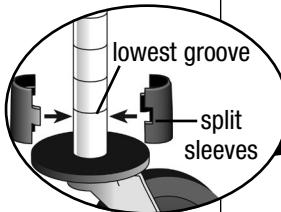

Figure 2a
- A. Snap the plastic tapered split sleeves onto the lowest groove on each post (see *Figure 2a*). Remember, the thicker part of the taper goes toward the bottom.